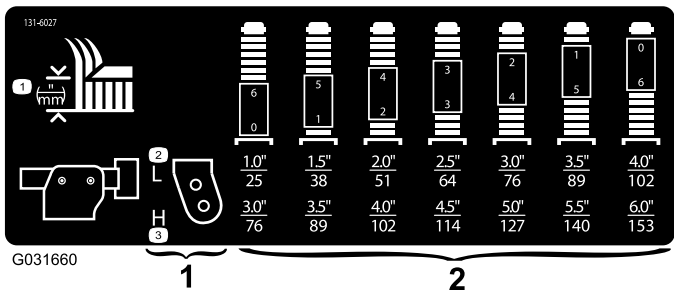

Figure 18
3. Position the caster-wheel axles in the same holes in all of the caster forks; refer to the chart (Figure 18) to determine the correct holes for the setting.
Note: Refer to the chart to determine the combinations of spacers for the setting (Figure 18).